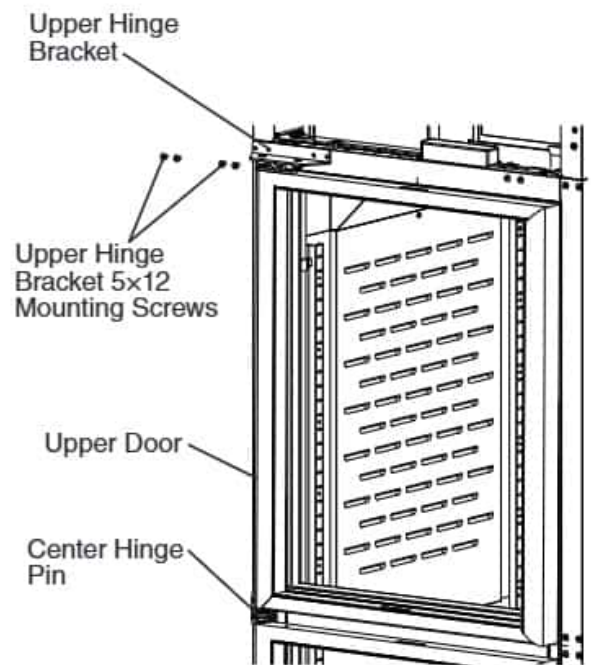

Fig. 66
- 19) While supporting the upper door and upper hinge bracket, place the upper door onto the upper center hinge pin on the center hinge bracket in the closed position, then secure the upper hinge bracket to the cabinet. See Fig. 66. **NOTICE!** Be sure to reuse the bracket screws for mounting the bracket as the bracket screws are 5×12 and filler screws are 5×10.